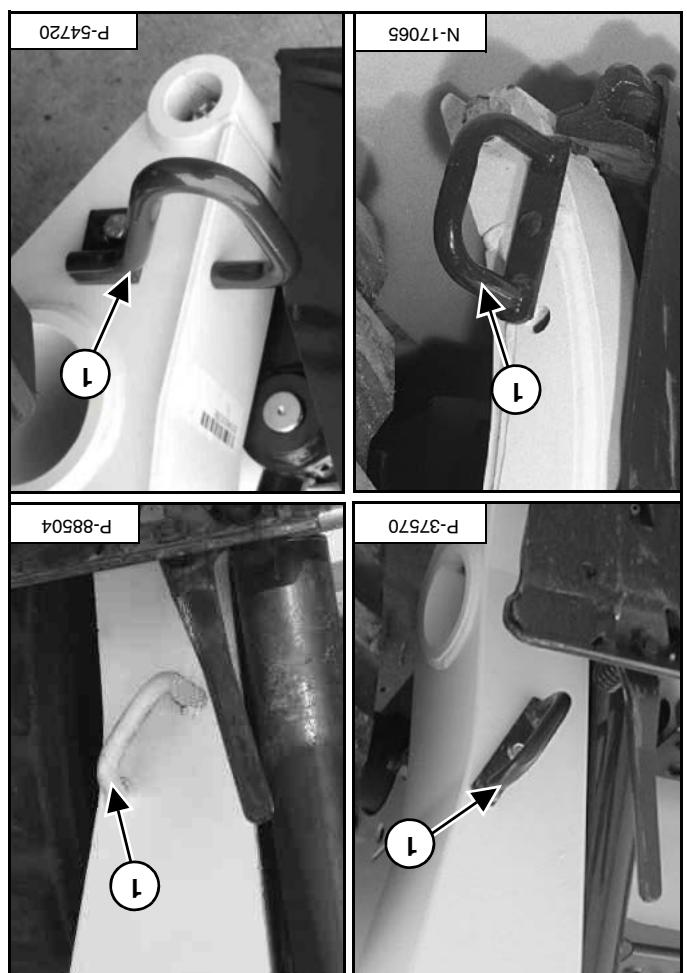

Figure 19
NOTE: Hose guide styles vary between loader models. Hose guides are not included with the attachment. See Your Bobcat dealer for available hose guide kits. Install the correct hose guide (item 1) [Figure 19] on the loader.